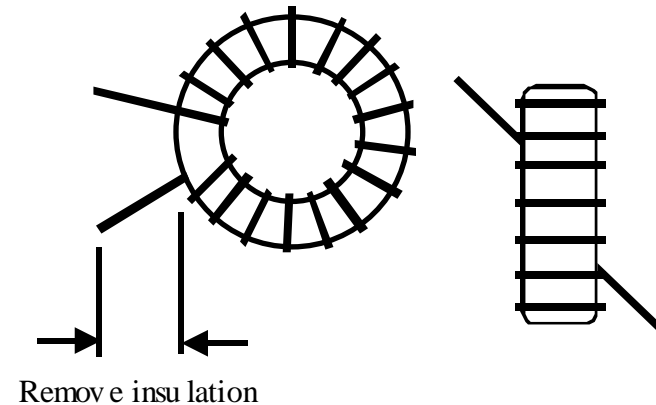

Figure 16
Find the component outline for L4, at the left side of the board near relay K5. Compare this component outline to Figure 16, which shows two views of a typical toroidal inductor. L4 will be mounted vertically as shown at the right side of the drawing, with one wire exiting at the core's upper left, and the other at the lower right.
Cut 15 inches (37 cm) of **#22 red** enamel wire. To wind L4, "sew" the long end of the wire through the T50-10 core. *Each pass through the core counts as one turn.* 17 turns are needed, as shown in Figure 16. The enamel insulation will be removed in a later step.
- Strip the leads of L4 as described above. Remove the enamel from the leads up to the edge of the core (see Figure 16).